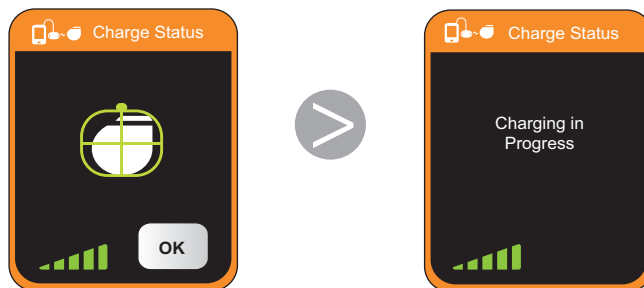

Figure 5. Charging in progress.
7. While the IPG is charging, the Charge Status screen is displayed (*Figure 5*).